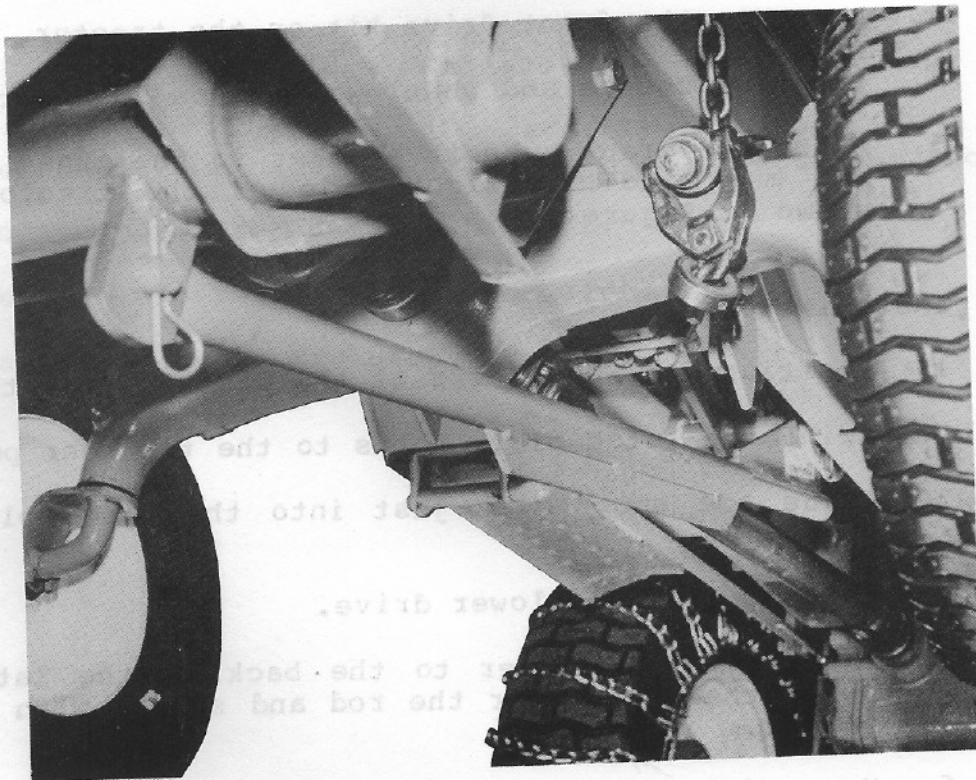

FIGURE 7
6. Move the attachment lift to the lowest position and connect the lift linkage. Secure with a washer and hair pin cotter at each end. See Figure 7.
6. Move the attachment lift to the lowest position and connect the lift to the frame. Secure with a washer and hair pin cotter at each end. See Figure 7.